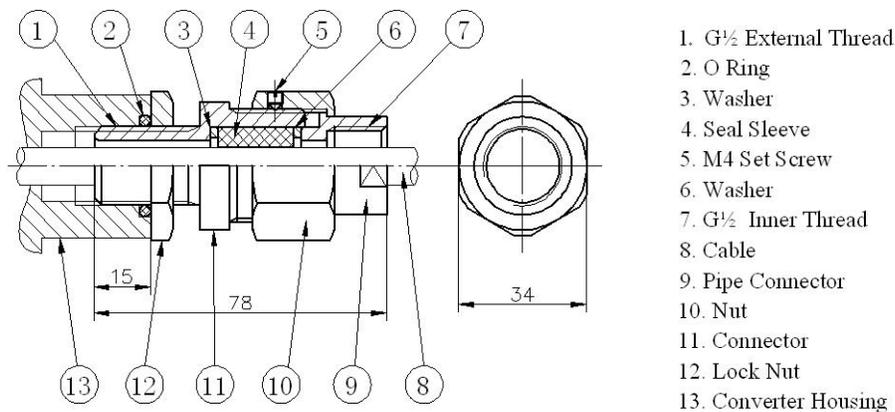

Fig. 5 Explosion-Proof Seal Connector
#### (2) Converter wiring (see Fig.5)
### 1) Installation of Explosion-Proof Seal Connector: (see Fig.5)